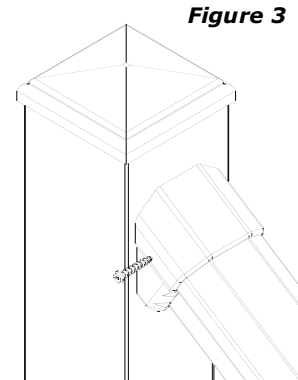

Figure 3
Step 6: If necessary to prevent either the top rail or the bottom rail from sliding, install a #8 x 1-1/2" painted screw per Figure 3. Pre-drill a 5/32" pilot hole for the aluminum reinforcement. Place the screw on the outside of the railing so it is not as obvious.